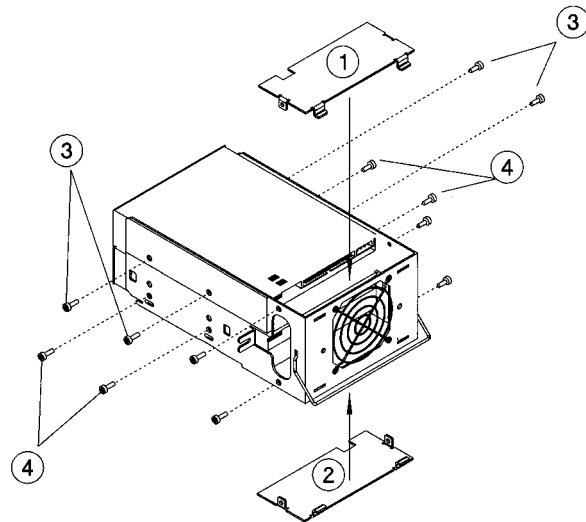

Figure 51: Unmounting a Drive From the Enclosure
4. Remove the four T-10 screws holding the top and bottom access plates on the drive enclosure (see #1 and #2 in Figure 51). Remove the plates.
5. Remove the four T-10 screws that hold the *failed* drive in the drive enclosure and slide the drive forward a small amount to give you room to remove the cables. (#3 screws on Figure 51 hold the upper drive, #4 screws hold the lower drive.)
11. Insert and tighten the four T-10 screws that mount the drive into the enclosure (see Figure 51).
13. Insert the drive enclosure into the chassis and secure the enclosure with two T-20 screws (see #5 on Figure 51).